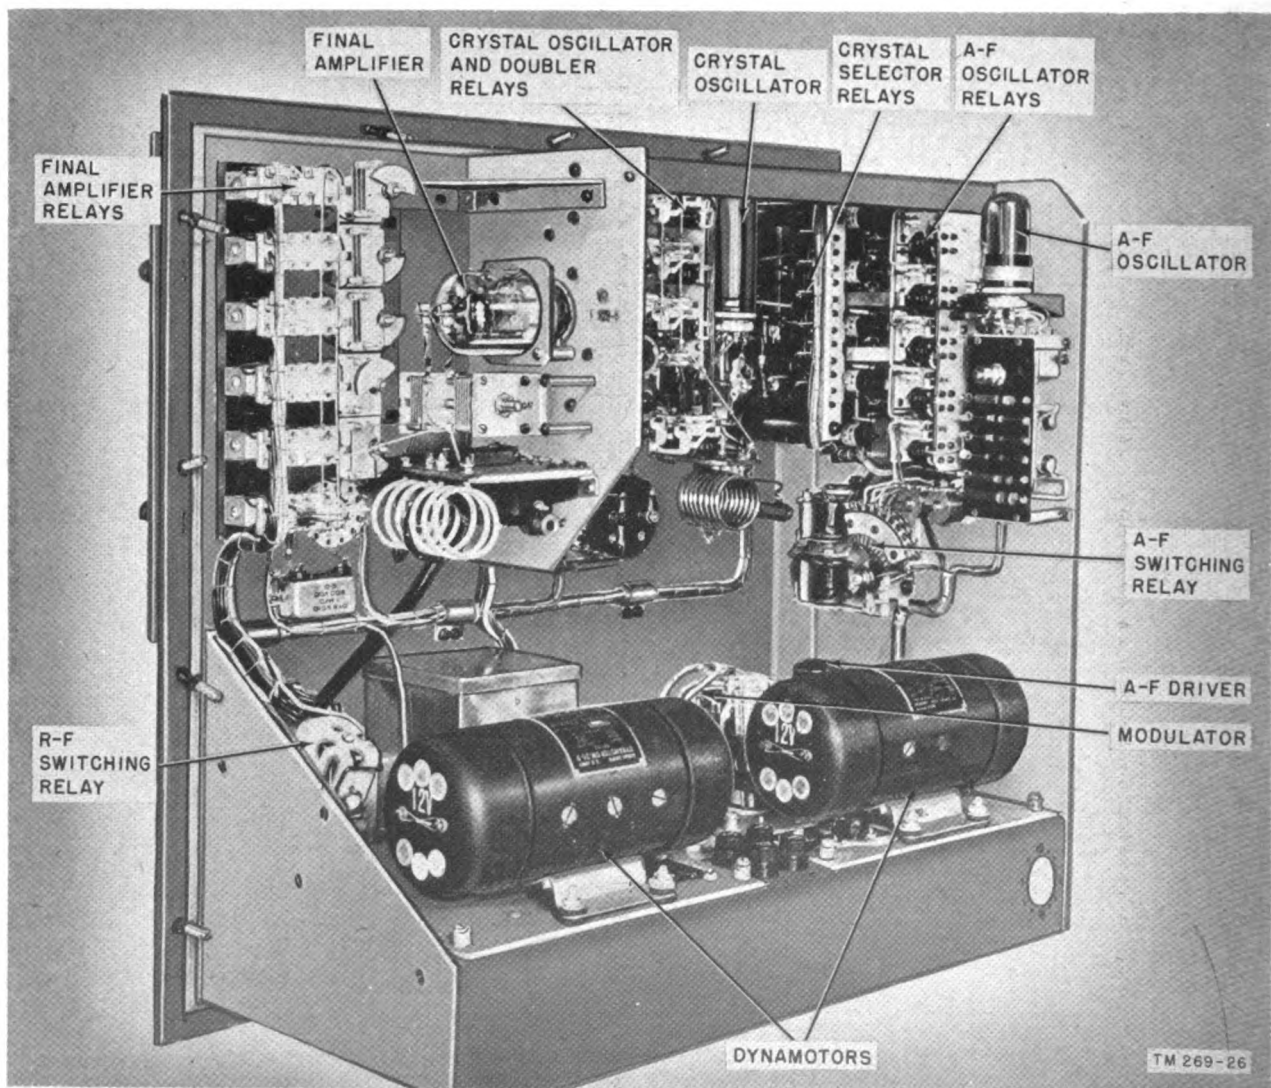

Figure 27. Transmitter, stages and relays identified.
The r-f section of the transmitter includes a crystal oscillator, doubler, and final amplifier. The transmitter circuits are located on the upper half of the chassis and are mounted on the rear side of the front panel (fig. 27).
The a-f section of the transmitter includes the a-f oscillator, driver, and modulator stages. The section is located on the upper and lower left-hand side of the chassis (fig. 27). The following discussion applies to audio channel 5, and to channels 1, 2, 3, and 4, with the exception of resistor and capacitor circuit numbers.
b. Switching the a-f channels is similar to switching the r-f channels, except that there are only five a-f channels and there is only one relay in each channel (fig. 56). This relay connects the proper resistors and capacitors to the bridge circuit of the Wien Bridge oscillator to determine its frequency of oscillation. The location of the r-f and a-f rotating relay switches is shown in figure 27.
The power supply for the transmitter consists of two dynamotors (fig. 27) which supply power to the r-f and a-f sections, respectively. The dynamotors are motor generators which convert the 12-volt d-c battery potential into 625 volts for use in the transmitter circuits. For 24-volt operation two 24/625-volt dynamotors are issued. Switch S-1 (fig. 44) changes the input voltage circuits according to the battery supply which is used. The total power consumption of the transmitter is about 450 watts.